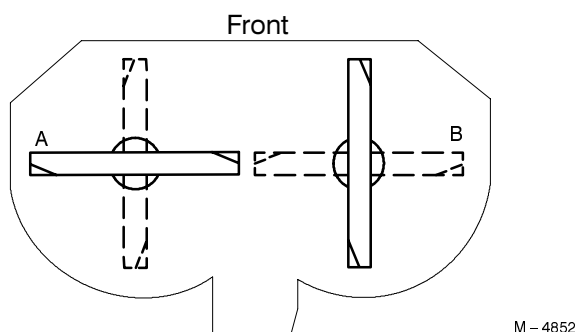
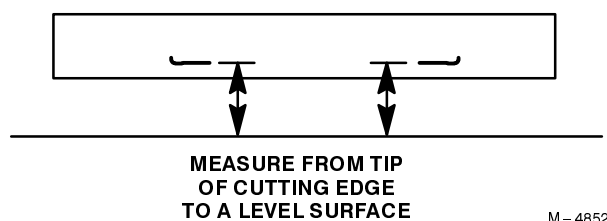

Figure 53
Figure 54
2. Position the blades side-to-side (Fig.53). Measure at “A” and “B” locations (Fig. 53) from a level surface to the cutting edge of blade tips (Fig.54).